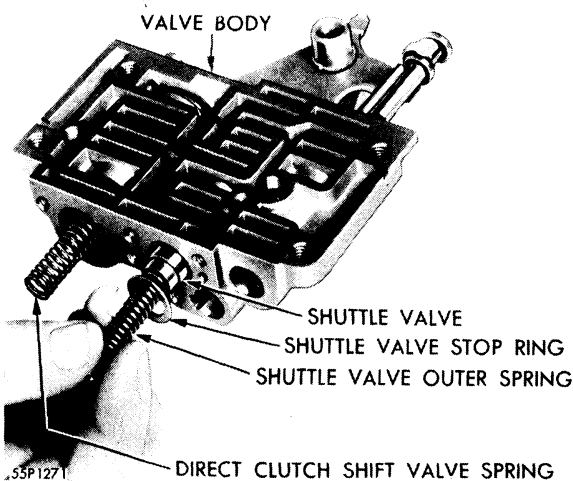

Fig. 123—Removal or Installation of Shuttle Valve Assembly
- (12) Carefully remove valve body and cover so as not to lose any of the springs or kick-down valve ball. Kickdown valve spring (short) will drop out when cover is removed. This is an adjustable plug, **do not disturb setting**.
- (13) Remove kickdown valve ball from body.
- (14) Remove the shuttle valve by using the shuttle valve spring. The shuttle valve stop ring will come out with the valve, as shown in Figure 123.